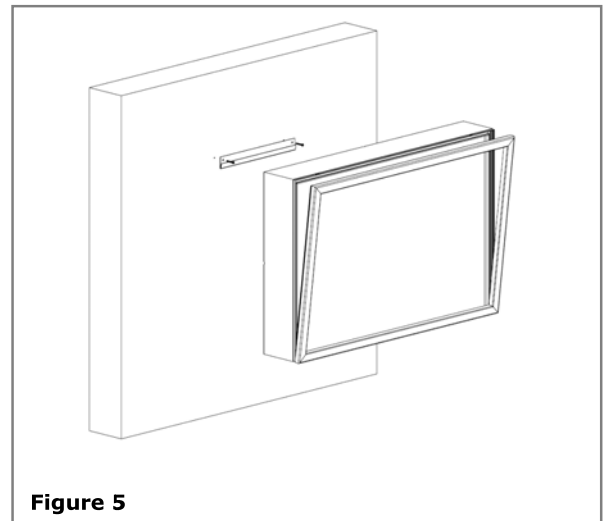

Figure 5
3. Install the wall hangers. If the surface is wood, use a 1/8" drill. If the surface is gypsum (plaster) board, use a 1/4" drill and insert the plastic anchors provided. Position the "J" hangers and insert the screws. Position the box hanger on the back of the display unit over the wall hanger. Exert a slight downward pressure to test for proper mounting strength. **See Figure 5.**